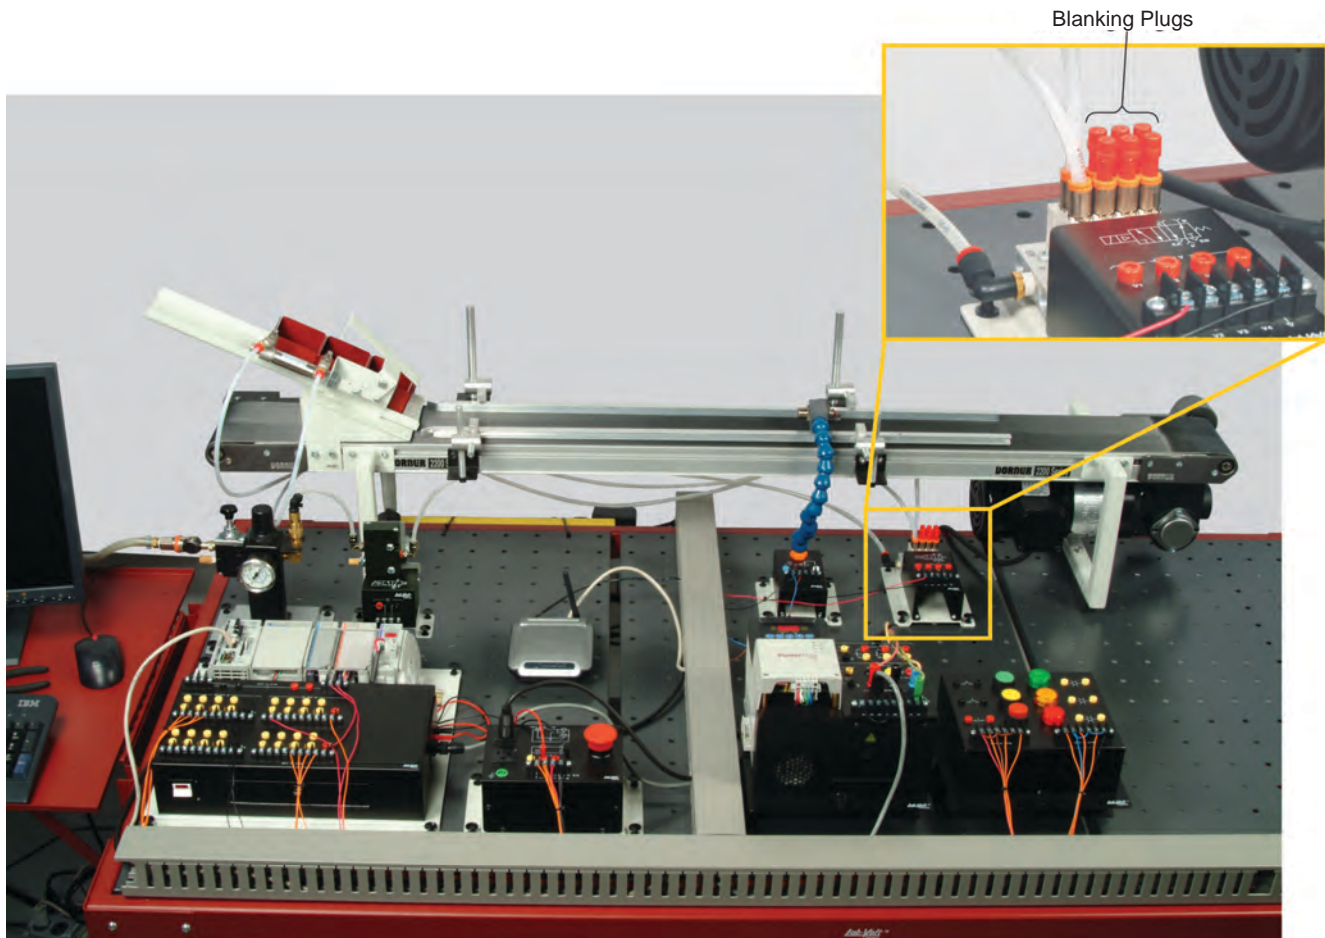

Figure 4-23. PLC-controlled conveyor and sensors setup.
11. Once completed, the setup should look as shown in Figure 4-23.